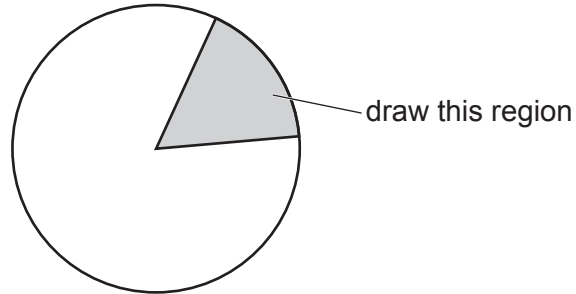

Fig. 2.1
- (a) (i)** Draw a large plan diagram of the region of the stem on **J1** indicated by the shaded area in Fig. 2.1. Use a sharp pencil.